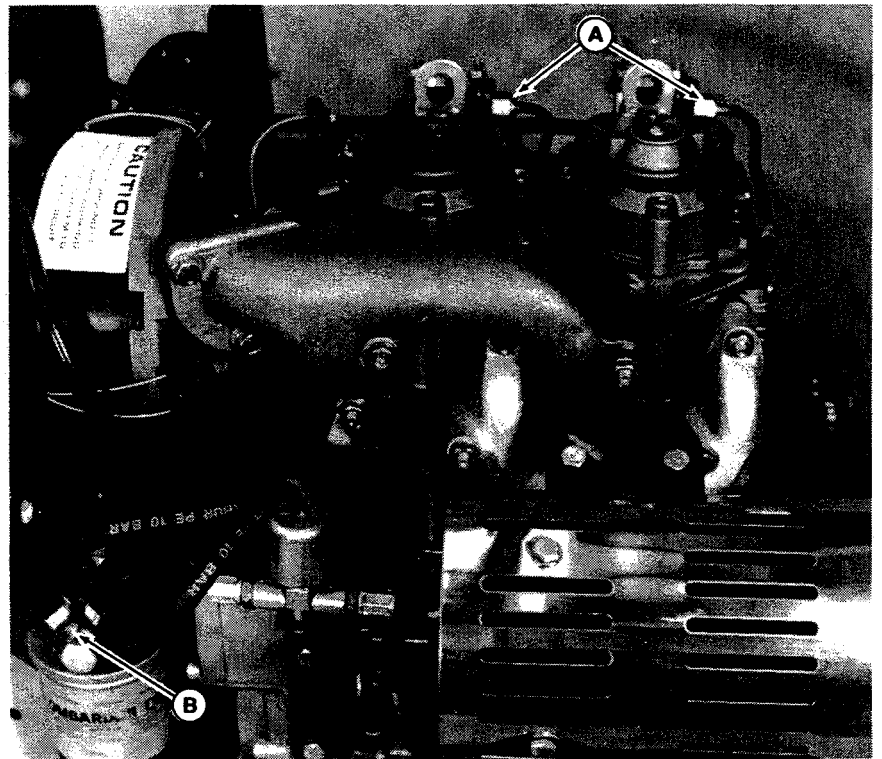
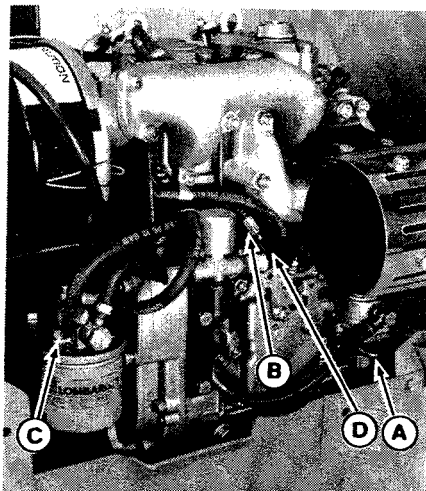

Figure 2.
Figure 3. Priming Engine
2. Loosen bleed screw (B, figure 2) at top of fuel filter. Pump primer-lever (A, figure 3) on fuel feeding pump until fuel spills out without air bubbles. Tighten screw.
3. Loosen bleed screw (D, figure 3) at injector pump inlet. Repeat pumping procedure in step 2.
4. Loosen injector lines (A, figure 2) at each injector, then crank engine until fuel appears. Tighten the lines.